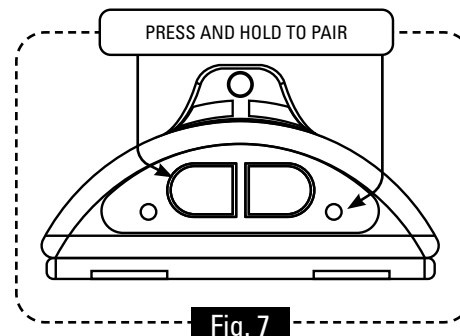

Fig. 7
2. Push and hold the small round button and the large OPEN/RAISE button (Fig. 7) simultaneously and hold for approximately 6 seconds. The red light will flash rapidly.